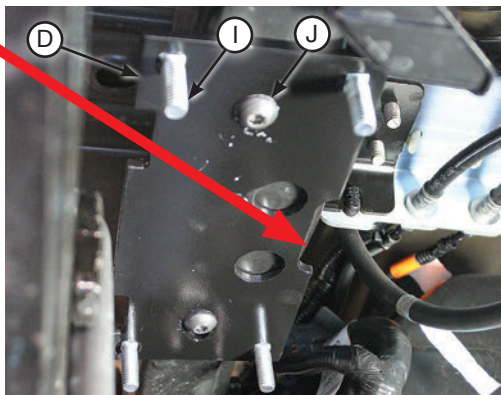
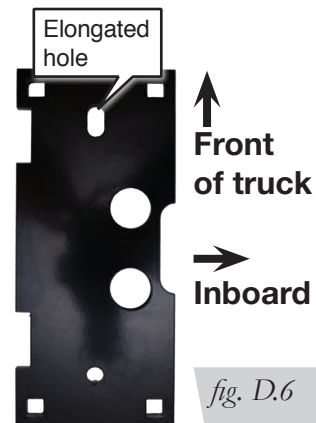

fig. D.5
fig. D.6
5. Insert the 3/8"-16 x 1.25" carriage bolts (I) into the upper frame brackets (D) and install the upper bracket onto the frame using the M10-1.5 x 35 button head cap screws (J). The slot that is on the side of the bracket should be inboard of the frame rail (Fig. D.5 & 6). The elongated hole should be toward the front of the truck (Fig. D.6). Torque hardware to 38 lb.-ft. (52Nm).